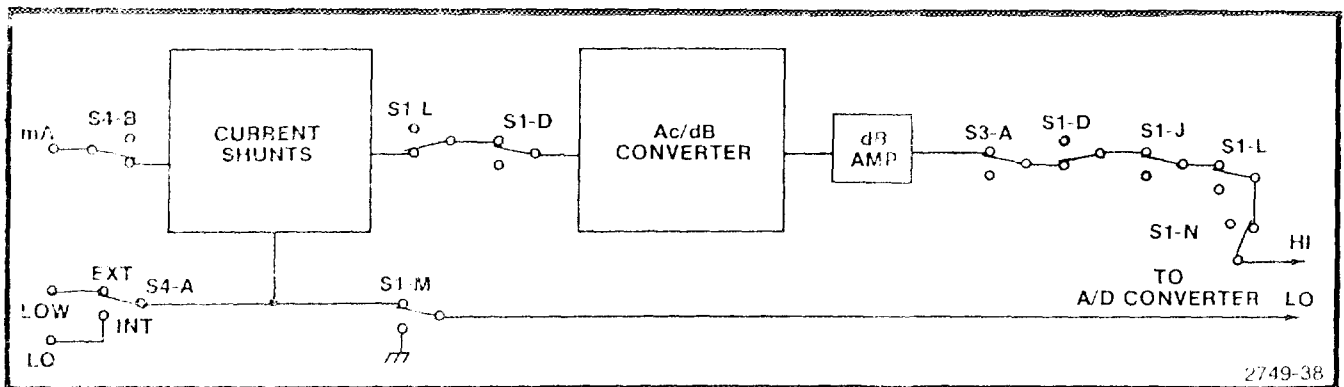

Fig. 3-3. dB switching
**dB Input Circuitry 1 (Refer to Fig. 3-3)**